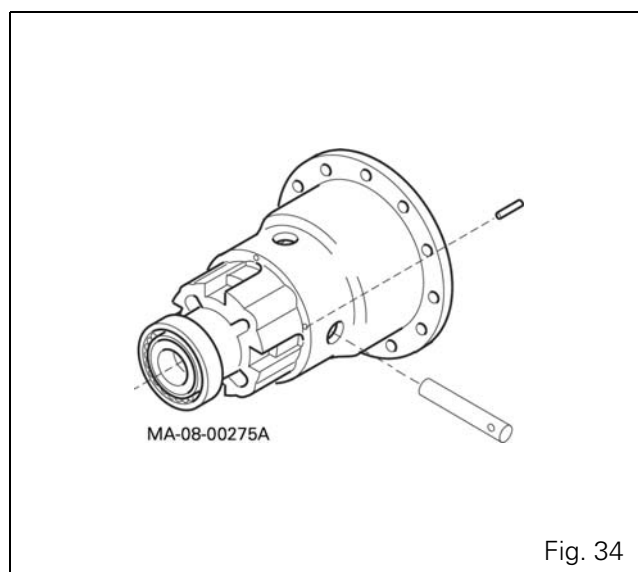

Fig. 34
40. Lock the pin by inserting the locating dowel in the hole provided on the bearing and pin. Turn the pin manually to align the hole of the dowel with that of the bearing (Fig. 34).